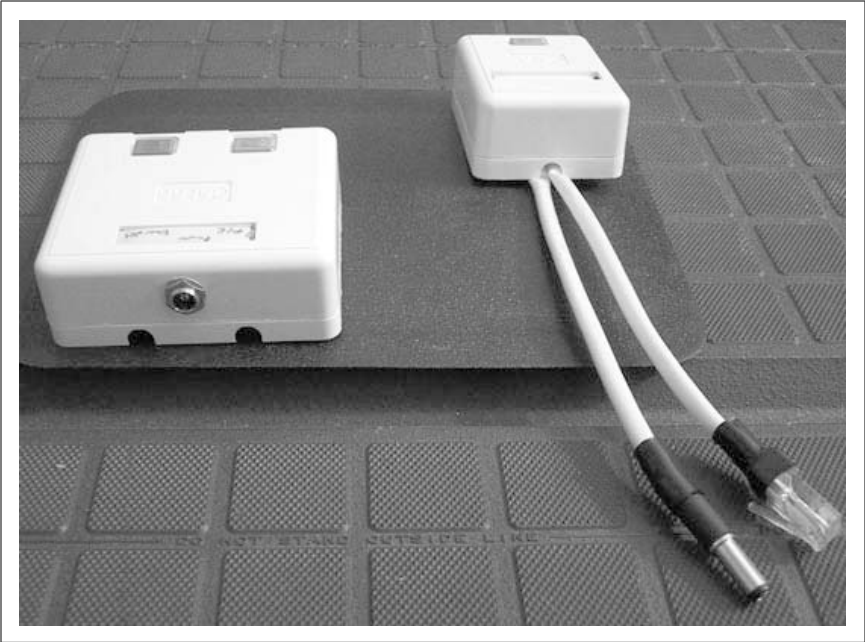

Figure 4-8. The completed PoE modules
5. Plug in and test. Figure 4-8 shows the completed modules.